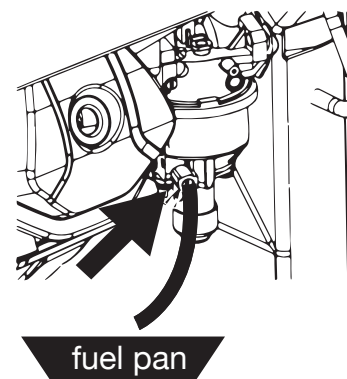

Figure 16: Drain Float Bowl
5. If screen is not torn then clean using a wire brush, commercial solvent, or compressed air. Remove any dirt and debris that may have collected on the spark arrestor screen (see Figure 16).